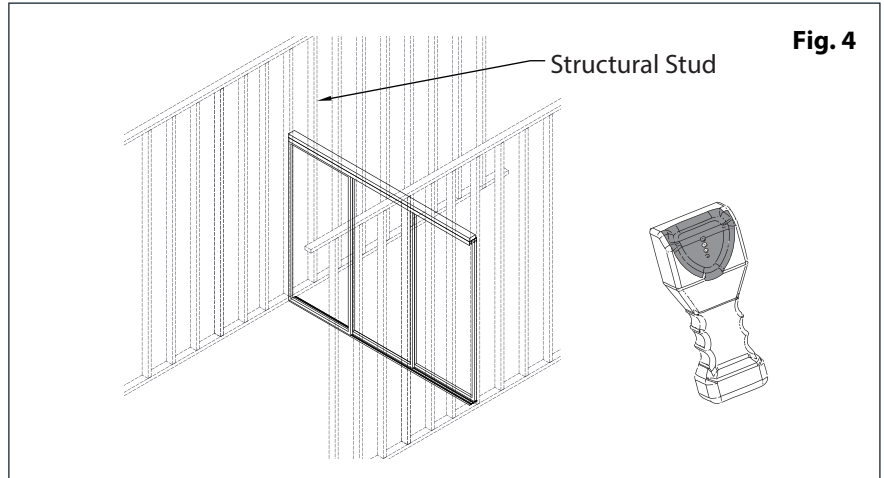

Fig. 4
1. Locate the structural studs in the wall and mark their locations. See Figure 4.